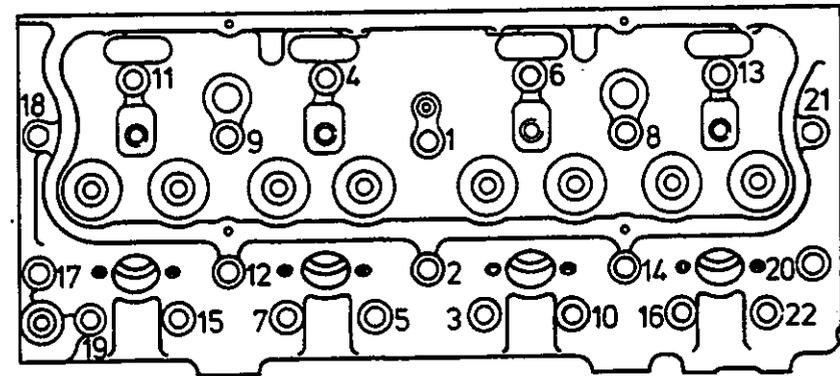

Fig. 9 Sequence to tighten cylinder head
- 3 Check the tension of the cylinder head nuts/setscrews in the correct sequence (see fig. 9). The correct torque tension for G4.236 engines is 131 Nm (96 lbf ft) 13,2 kgfm for studs or setscrews.